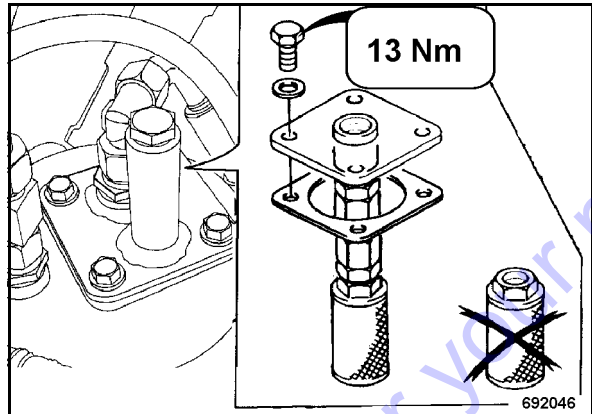

Fig. 78
- Fasten the connecting flange (Fig. 78) with a new gasket on the hydraulic oil tank, tightening torque: 13 Nm.